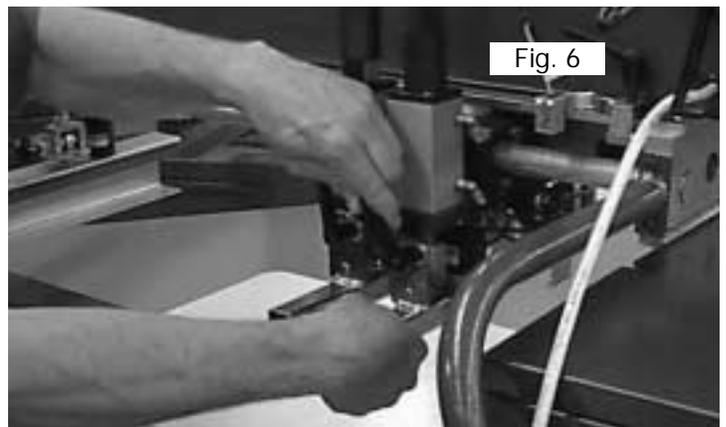

Fig. 6
5. Check to be sure the front mounting bar is straight (no angle) by loosening the two ratchet knobs (Kipp Elisa Knobs) and turning the mounting bar. (See Fig. 6)